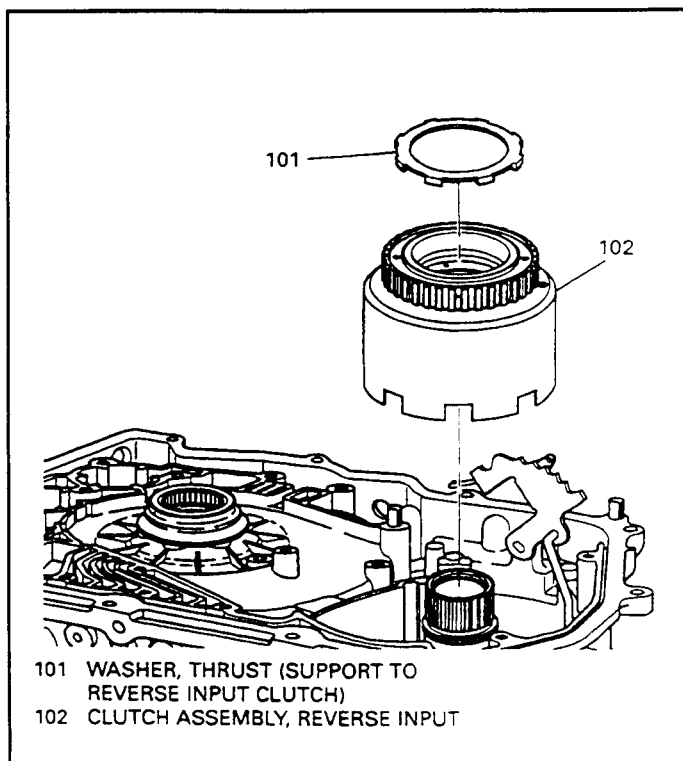

Figure 153
25. Install the reverse input housing and 2nd roller clutch assembly (102) into the transaxle case as shown in Figure 153.
27. Install the reverse input clutch thrust washer (101) onto the top of the 2nd roller clutch with the tabs facing down, as shown in Figure 153, and retain with "Trans-Jel".